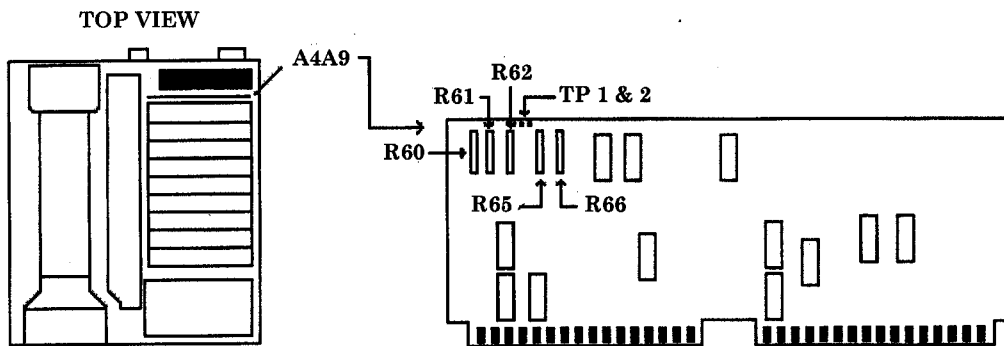

Figure 8. A4A9 board.
- (3) Adjust **DATA** knob to position trace at (or just below) reference level (top) graticule line.
- (4) Press TI keys as listed in (a) through (d) below:
- (5) Using TI **DATA** knob adjust marker down the positive going side of the displayed signal to the -3 dB point.
- (6) Adjust A4A9R60 (fig. 8) for a **MKR D** indication of 1.5 MHz while maintaining marker at the -3 dB point using TI **DATA** knob (R).
(11) Adjust **DATA** knob to position trace at (or just below) reference level (top) graticule line.
(12) Press TI keys as listed in (a) through (d) below:
(13) Using TI **DATA** knob adjust marker down the positive going side of the displayed signal to the -3 dB point.
(14) Adjust A4A9R61 (fig. 8) for a **MKR D** indication of 500 kHz while maintaining marker at the -3 dB point using TI **DATA** knob (R).
(15) Press TI **MARKER D** key.
(16) Using TI **DATA** knob, adjust marker to the -3 dB point on the negative going side of the displayed signal. There are now two markers; one on each side of the signal at the -3 dB points.
(17) TI **MKR D** indication should be  $1.00 \pm 0.10$  MHz.
(18) Press TI keys as listed in (a) through (i) below:
(19) Adjust **DATA** knob to position trace at (or just below) reference level (top) graticule line.
(20) Press TI keys as listed in (a) through (d) below:
(21) Adjust TI **DATA** knob to place marker down the positive going side of the displayed signal to the -3 dB point.
(22) Adjust A4A9R62 (fig. 8) for a **MKR D** indication of 150 kHz while maintaining marker at the -3 dB point using TI **DATA** knob (R).
(23) Press TI **MARKER D** key.
(24) Adjust TI **DATA** knob to set marker to the -3 dB point on the negative going side of the displayed signal. There are now two markers; one on each side of the signal at the -3 dB points.
(25) TI **MKR D** indication should be 300 ±30.0 kHz.
(26) Press TI keys as listed in (a) through (i) below:
(27) Adjust **DATA** knob to position trace at (or just below) reference level (top) graticule line.
(28) Press TI keys as listed in (a) through (d) below:
(29) Adjust TI **DATA** knob to place marker down the positive going side of the displayed signal to the -3 dB point.
(30) Adjust A4A9R65 (fig. 8) for a **MKR D** indication of 5 kHz while maintaining marker at the -3 dB point using TI **DATA** knob (R).
(31) Press TI **MARKER D** key.
(32) Adjust TI **DATA** knob to set marker to the -3 dB point on the negative going side of the displayed signal. There are now two markers; one on each side of the signal at the -3 dB points.
(33) TI **MKR D** indication should be  $10 \pm 1.0$  kHz.
(34) Press TI keys as listed in (a) through (i) below:
(35) Adjust **DATA** knob to position trace at (or just below) reference level (top) graticule line.
(36) Press TI keys as listed in (a) through (d) below: